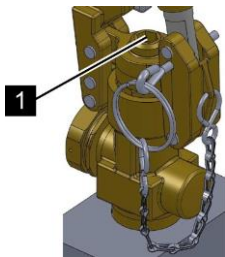

Fig. 163: Allen head screw
15. **L WARNING! Risk due to malfunction of the valve on the pilot distributor! Use a calibrated torque wrench to check whether the Allen head screw (Fig. 163/1) is set with a torque of 12 - 13 Nm (8.85 to 9.59 ft-lb).**